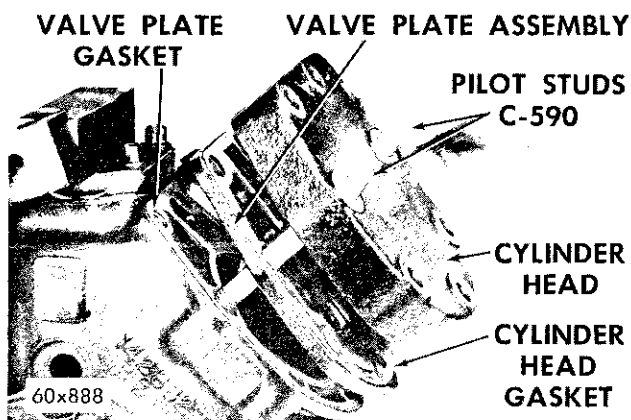

Fig. 56—Installing Valve Plate and Cylinder Head
(2) Dip gaskets in clean refrigerant oil. Using pilot studs as a guide, install valve plate gasket, valve plate, cylinder head gasket and cylinder head, as shown in Fig. 56.
(3) Install attaching bolts. Tighten each bolt alternately and evenly 23-27 foot-pounds torque.